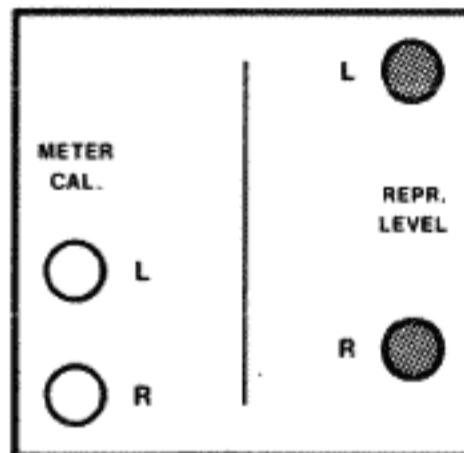

Fig. 6.4.-7
- Set operating controls as per fig. 6.4.-6.
- Connect audio millivoltmeter (1 V range) to OUTPUT L (51).
- Adjust trimpot REPR LEVEL L (fig. 6.4.-7) to obtain an output level of 0.775 V.